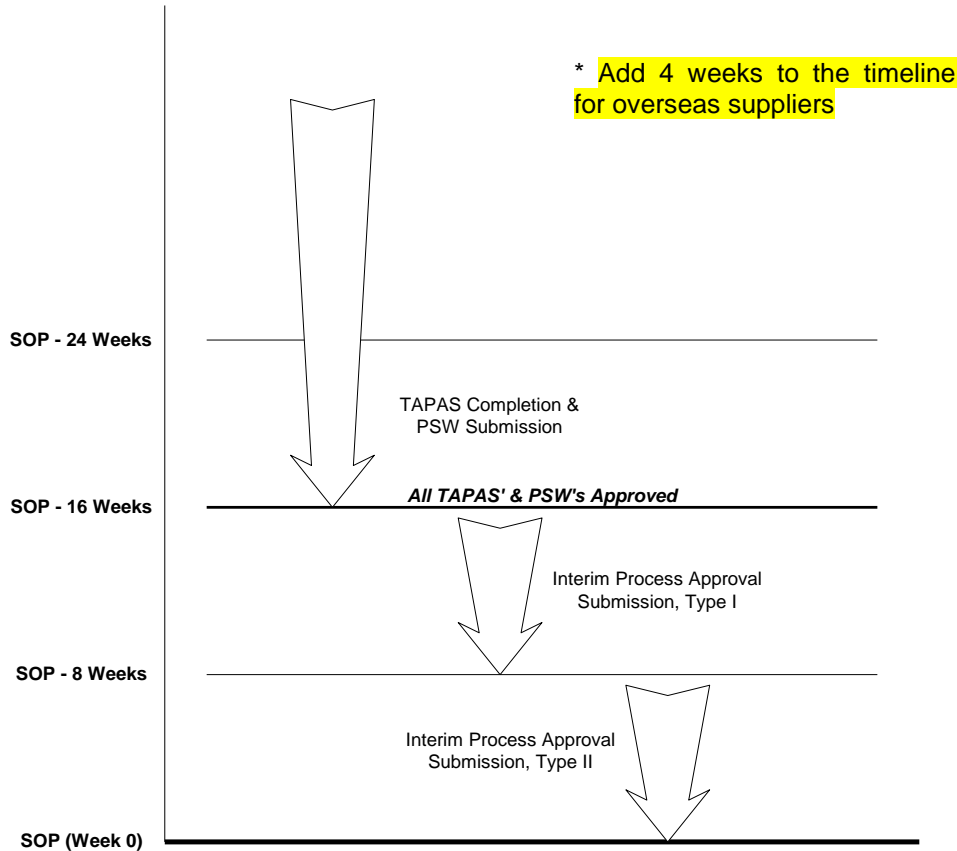

Figure 4. T-PAS completion timeline.
4.1. The Process will be completed prior to 16 weeks before the stated Start of Production (SOP – 16 Weeks), Figure 4. If the Supplier cannot finish the elements of the PPAP and complete all visits successfully prior to SOP - 16 Weeks, an Interim Process Approval (Type I) must be sought from AUTOKINITON and must include an approved recovery plan. If at SOP – 8 Weeks the PPAP has not been completed, an additional Interim Process Approval (Type II) must be sought from AUTOKINITON and must include an approved recovery plan. The difference between the Type I & II Interim Process Approvals is the level of approval required from within AUTOKINITON and also from within the Supplier. An Interim Process Approval does not relieve the Supplier of the requirements of completing the PPAP or any liability due to part quality/availability, and it will lead to greater scrutiny of the Supplier by AUTOKINITON. **Add 4 weeks to the timeline for overseas suppliers.**